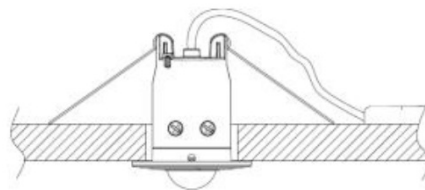

Fig 3
- Fit the PIR into the cut-out (see Fig 3)